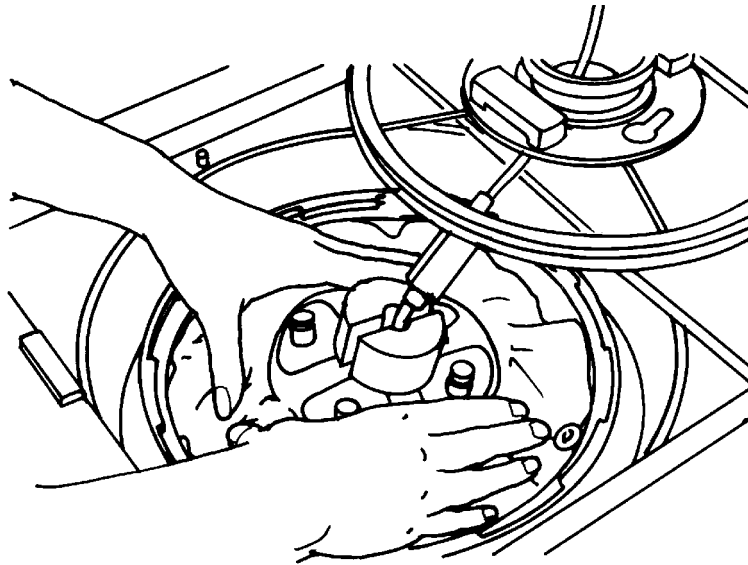

Figure 6-24: Manually priming
- 9 Press down on the processing set in the centrifuge bowl (Figure 6-24) and manually force out as much liquid as possible from under the diaphragm until it lies flat in the centrifuge bowl. Be careful not to puncture the diaphragm with jewelry, fingernails, or other sharp objects.